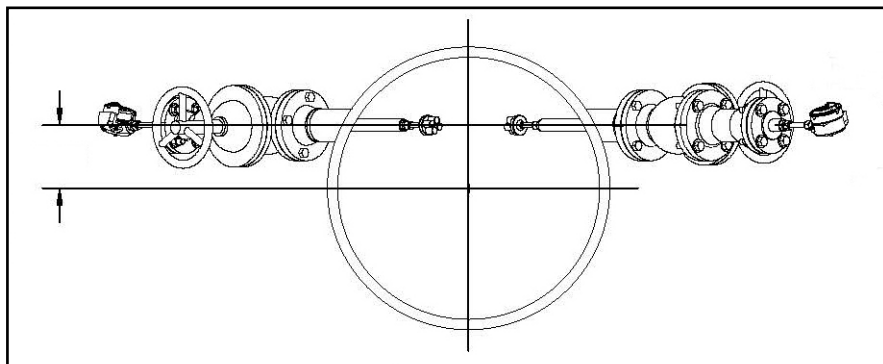

Figure 3: Non-Diametrical Path Configuration
- A non-diametrical path configuration (the signal path forms a line offset from the diameter (see *Figure 3* below).